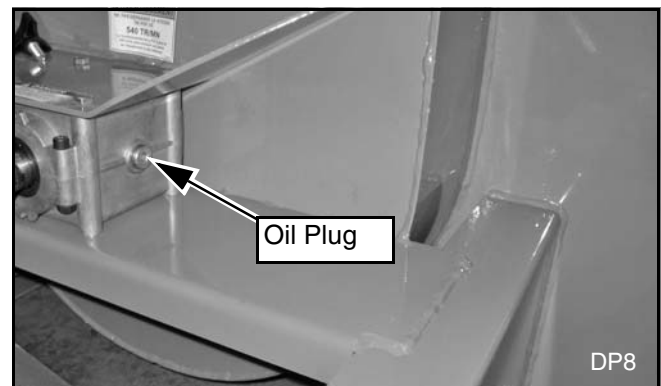

Figure 12. Gearbox Oil
To change the oil, follow this procedure, Figure 12:
5. Remove plug from gearbox and add .52 quart of SAE85W-90 gear oil, Figure 12.